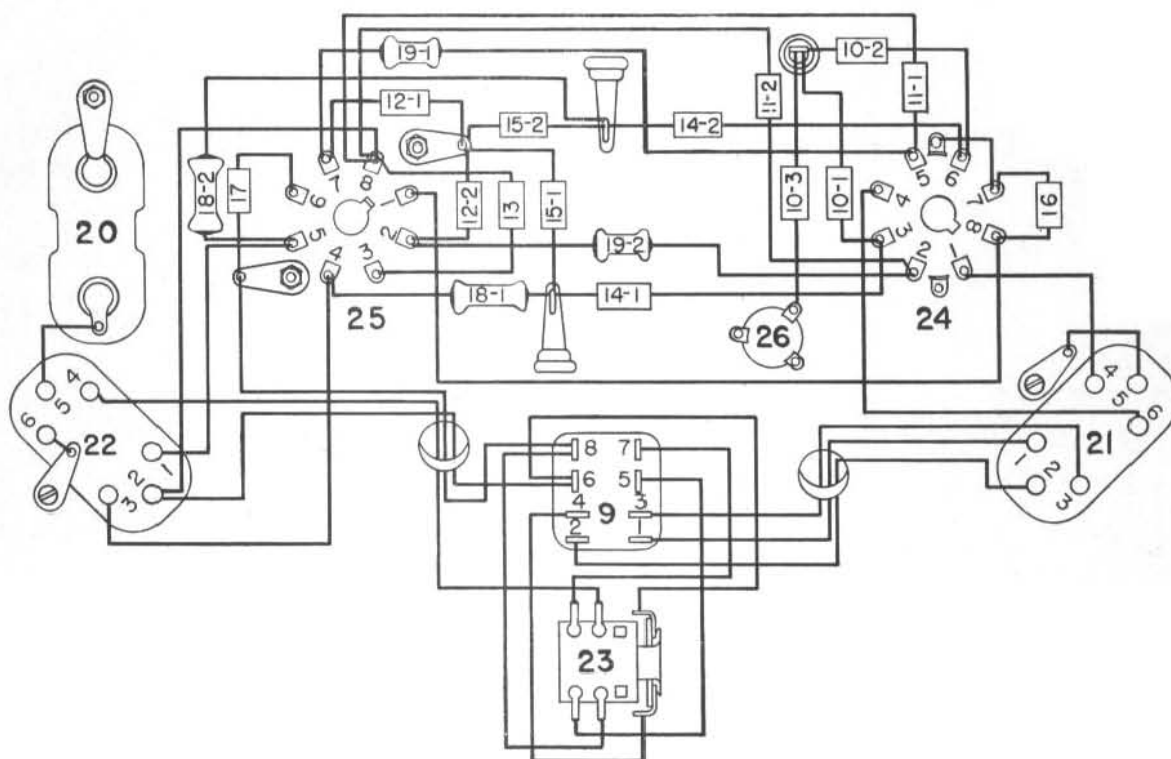
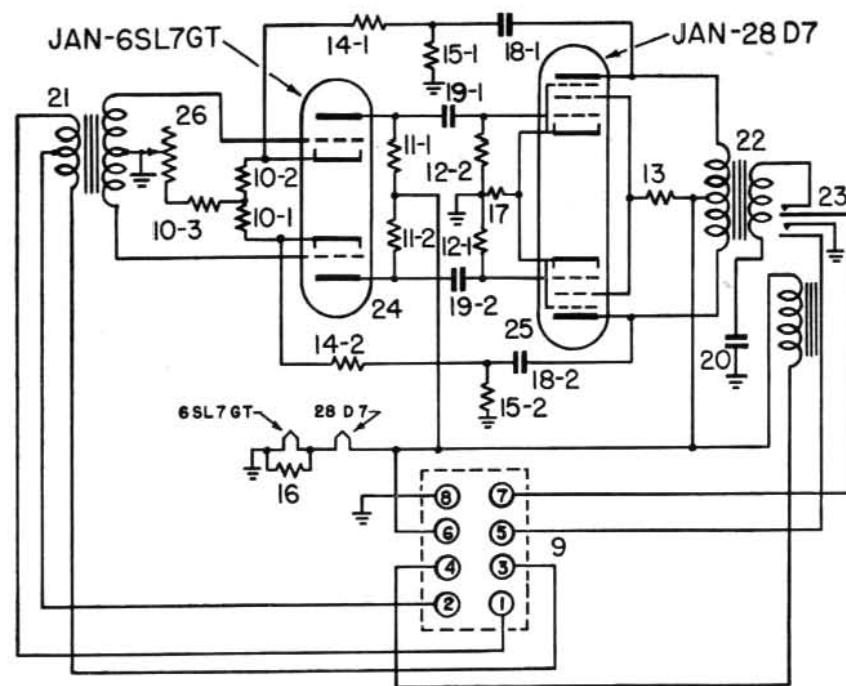

Fig. 6. Pre-Amplifier Model K-1, Practical Wiring Diagram
Fig. 4. Pre-Amplifier Model K-1, Schematic Diagram
b. Pre-Amplifier Model K-1 is illustrated in Figure 1, Page vi. The circuit diagram is shown in Figure 4, Page 9. The practical wiring diagram is shown in Figure 6, Page 13. Model K-1 is a two stage, push-pull, resistance coupled amplifier utilizing one twin-triode, high-mu type of vacuum tube JAN-6SL7GT in the input circuit. The gain of the amplifier may be adjusted by varying potentiometer (26). This control is available from the front panel (see Figure 1, Page vi). A screwdriver should be inserted in the hole labeled "GAIN CONTROL" and the control should be rotated in a clockwise direction to increase the gain.